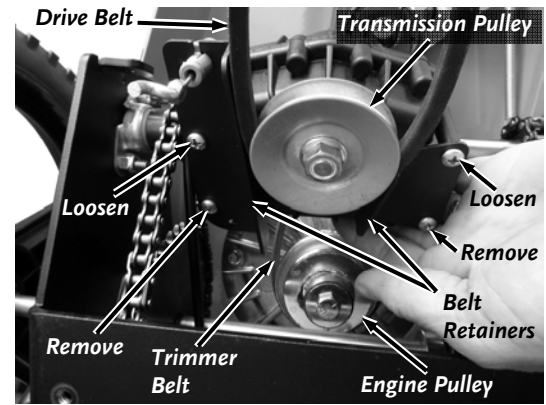

Figure 40
10. Continue to rotate the Transmission to gain access to the Belt retainers and Screws on the bottom of the Transmission (**Figure 40**).